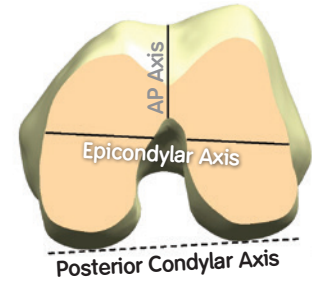

Figure 19
2. Optional: Mark the A/P and epicondylar axes on the femur (Figure 19).